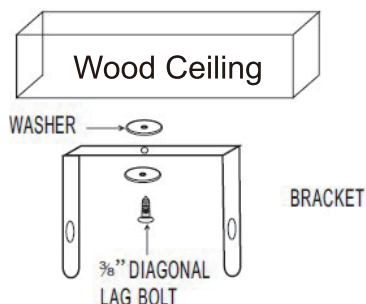

Figure 4a. Single-Screw Mounting
Refer to Figures 4a and 4b.
NOTE: If you want to swivel the heater either to the right or left adding a washer to both sides of the bracket is recommended. A longer lag bolt may be required to properly secure the unit. See Figure 4a.
1. To turn the unit when it has been installed with a single lag bolt (as shown in figure 4a), simply turn the entire heater as needed. The unit cannot be turned horizontally if it has been installed with 2 lag bolts.